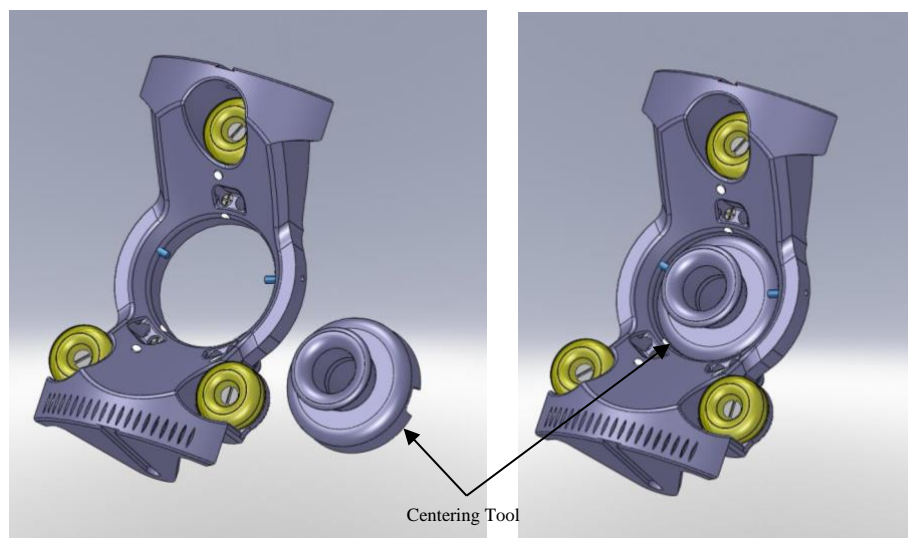

Figure 3: Base Mounting Orientation
2. Position the Base over the Centering Tool or visually center the Base over the burr hole with the single yellow fiducial marker in the up position. **See Figure 3.**
3. Using the supplied screwdriver, mount the Base with the three (3) pre-mounted self-tapping screws to the skull.
**Note:** In the event a replacement screw is required for securing the Base, additional Skull Mount Screws (3) can be used. See "Associated Devices" in Section II for ordering information on Rescue Screws.